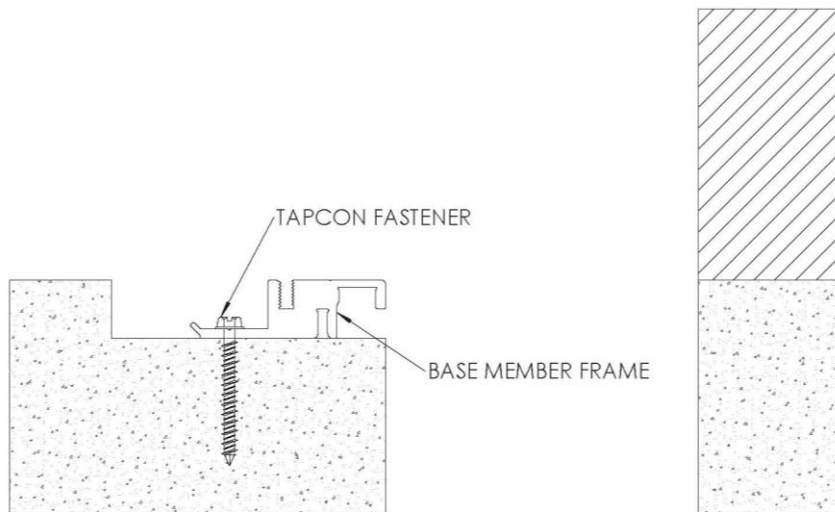

FIGURE 2
2. Position base member frame in blockout per shop drawings. Using the frame as a template, mark and drill 3/16" holes for Tapcon fasteners. Install base member frame to the blockout opening with fasteners, making sure not to over tighten. **See Figure 2**